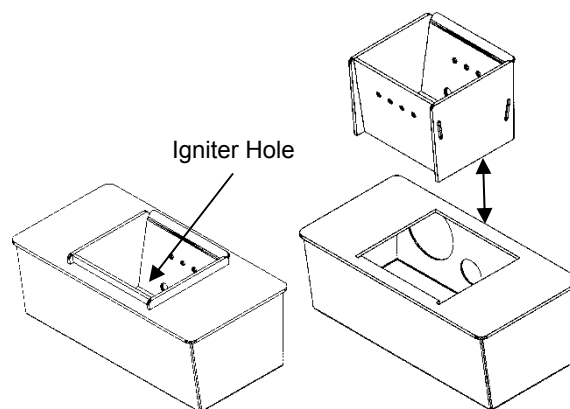

FIGURE 26
- Remove the burnpots inner section by grasping it and pulling straight up (see Figure 26).
- Replace inner section into burnpot; make sure it is level and pushed all the way back down and that the igniter hole is to the rear when it is reinstalled (see Figure 26).